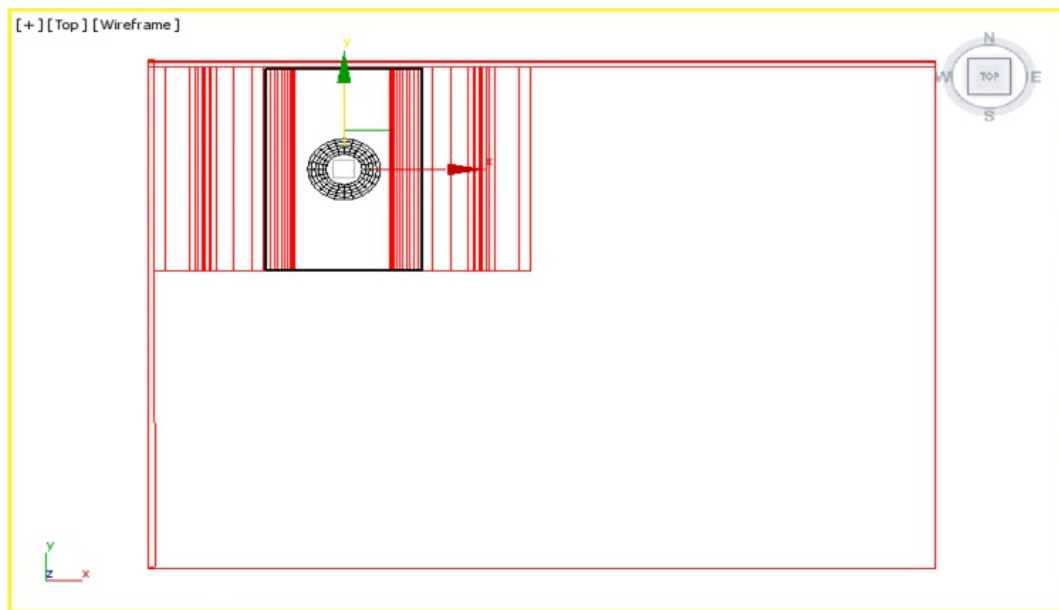

Figure P1-10 The table components aligned
12. Select *Base*, *Pedestal*, and *Top* and move them such that they are centered between the two booths, as shown in Figure P1-10.